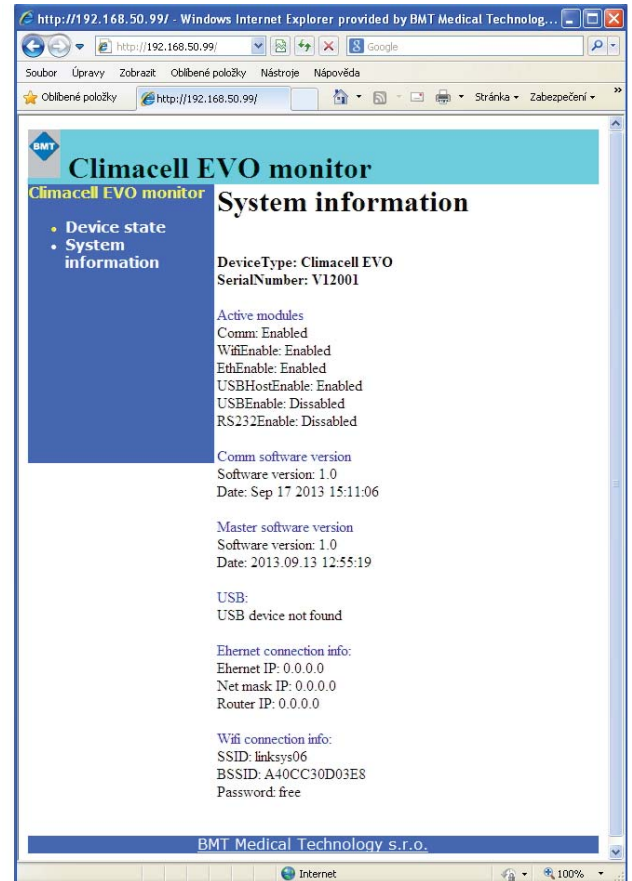

Fig. 38
6. System information will be displayed by clicking on "System Information". See Fig. 38.